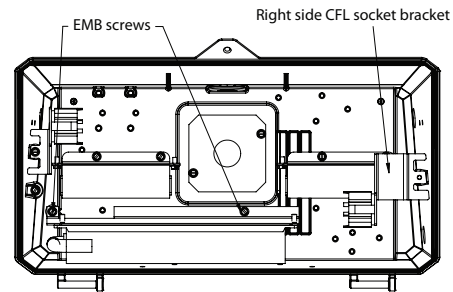

FIG. 4
NOTE: For luminaire with two [2] compact fluorescent lamps [CFL], remove right side CFL socket bracket and clear it out of the way before removing reflector **FIG. 4**.
- If luminaire is equipped with back-up battery pack [EMB] option; remove two [2] EMB screws **FIG. 4**.